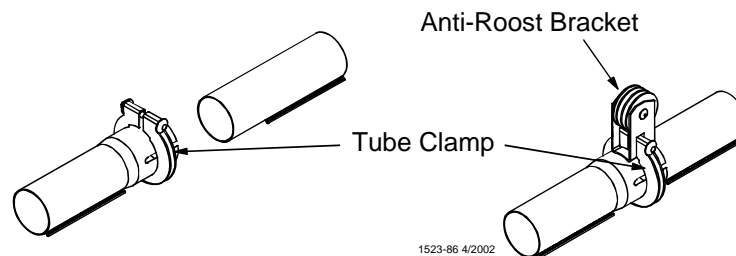

Figure 28. Assembling Feeders on the Tubes
4. Place a Tube Clamp Assembly or Clamp/Anti-Roost Bracket at each joint. **Figure 28** shows the standard Clamp and Clamp/Anti-Roost Bracket. Systems using 9' or 10' tubes require a Clamp/Anti-Roost Bracket every fifth joint.